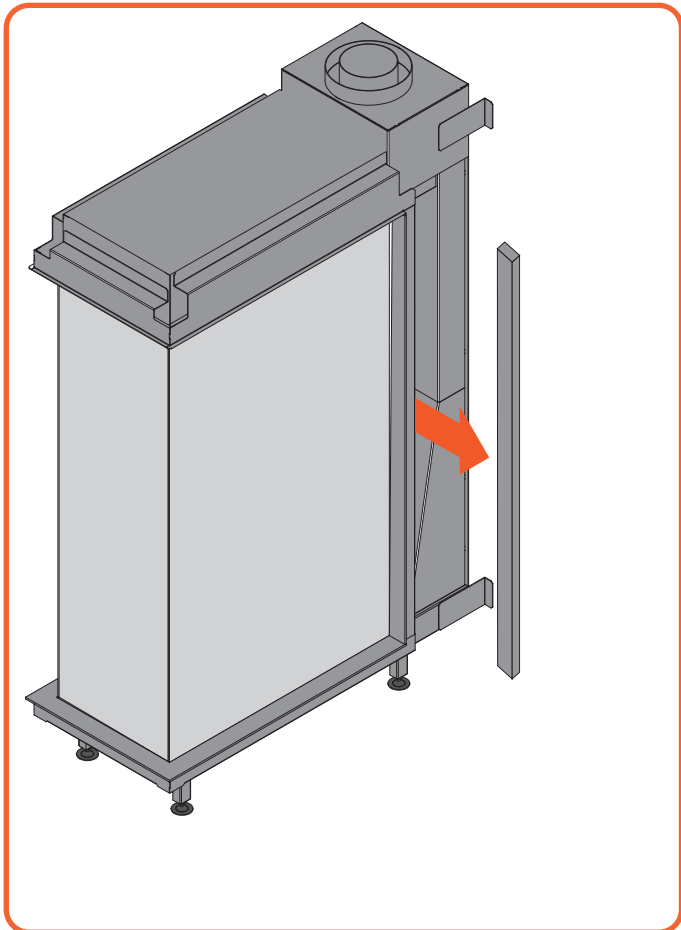
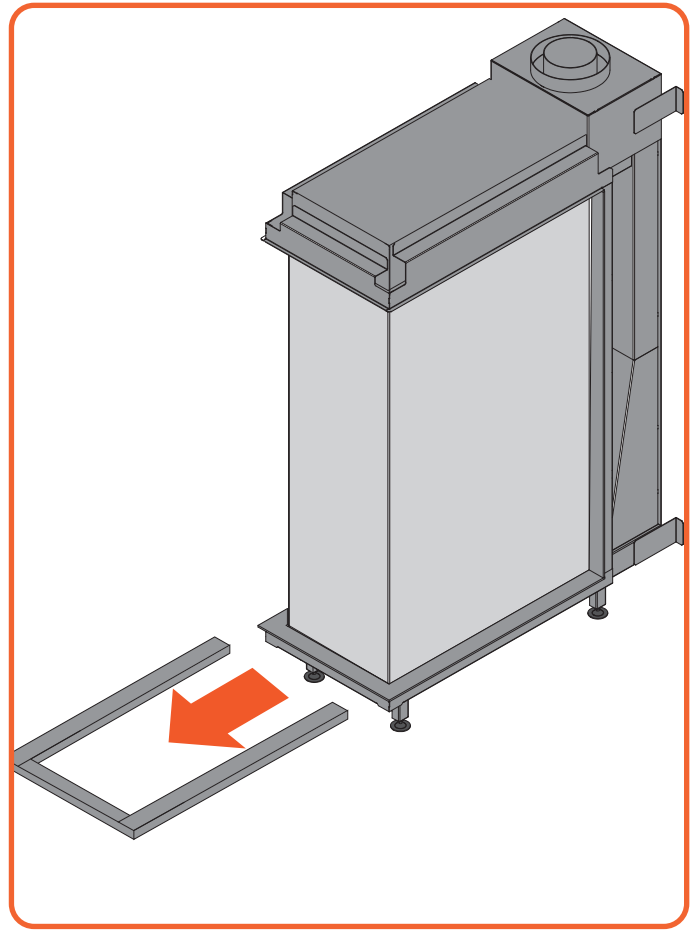

Figure 12.4 | Remove side trims
Figure 12.5 | Remove bottom trim
- Remove both the side trims and bottom trim. They are held by magnet snappers, Figure 12.4 & Figure 12.5.